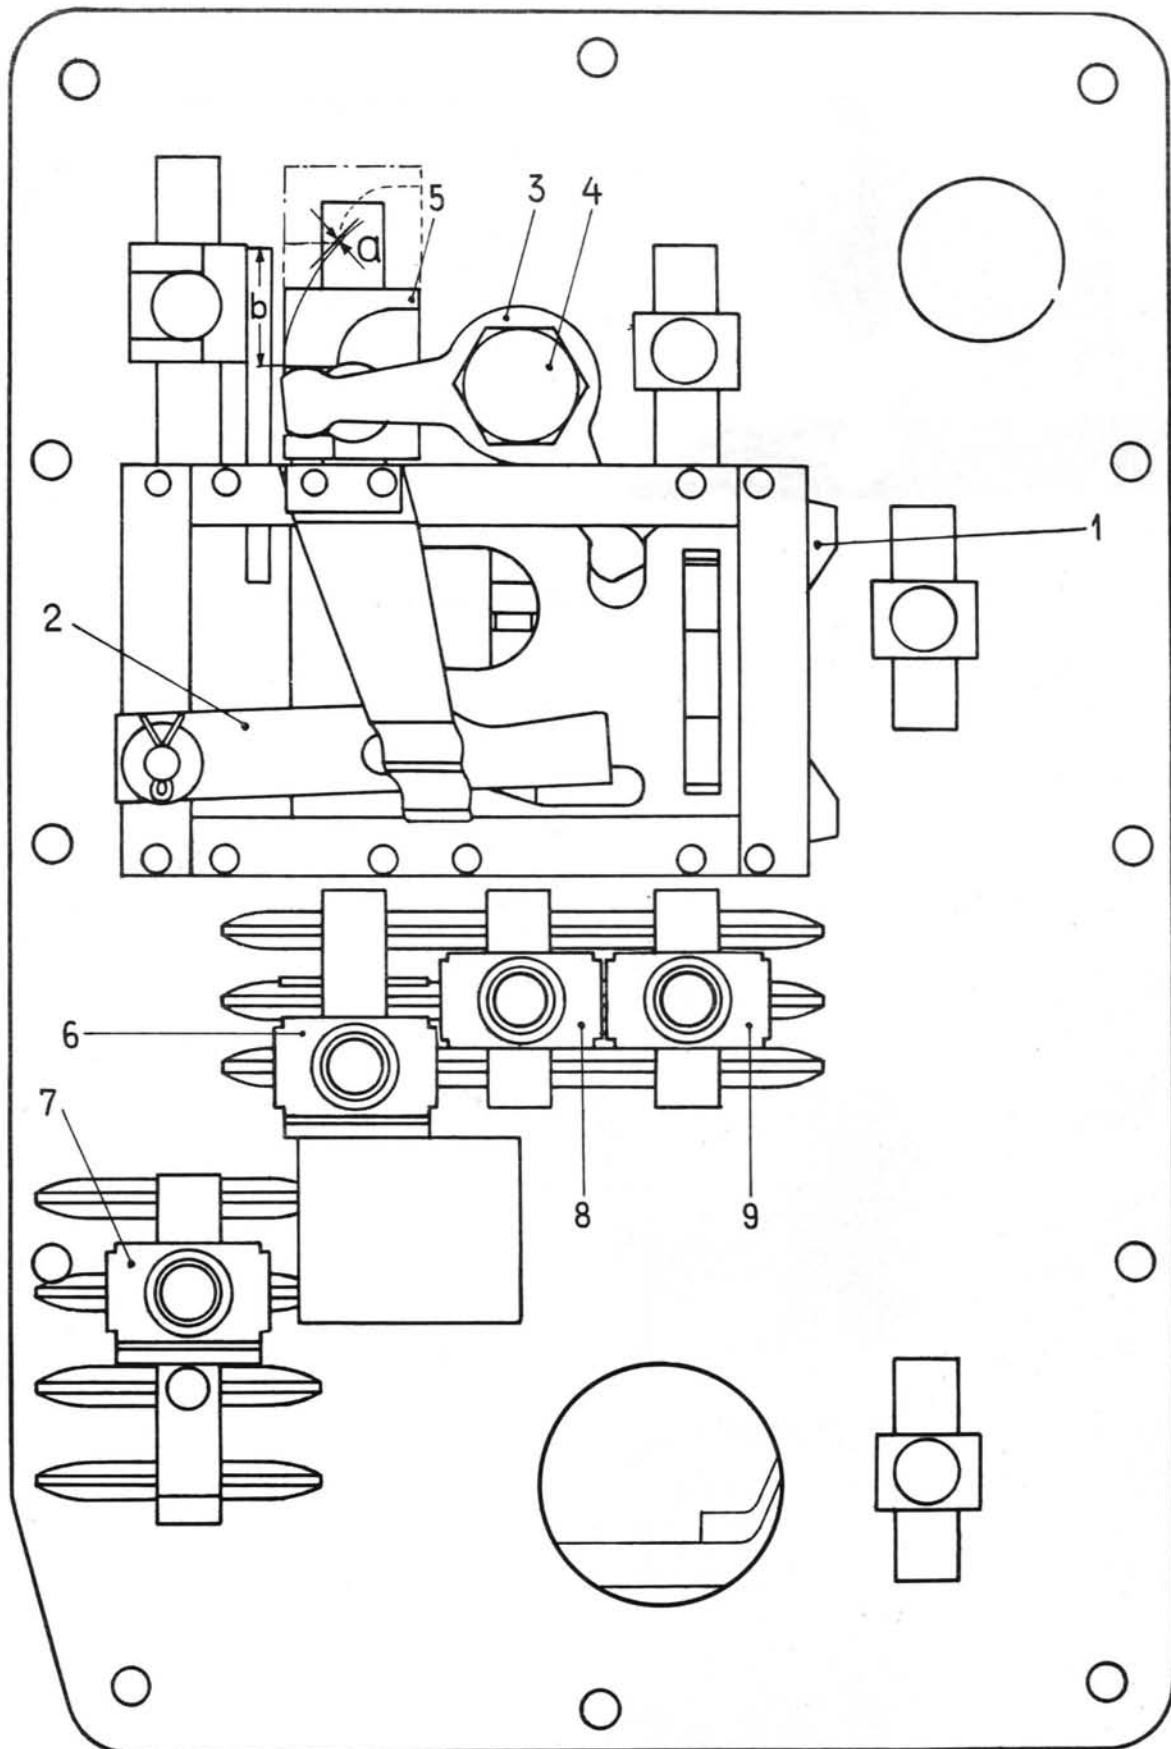

Fig. 26-4/4
17. Also make sure that the bell crank lever moves freely after 25 mm travel. Fig. 26-4/4, dimension b.